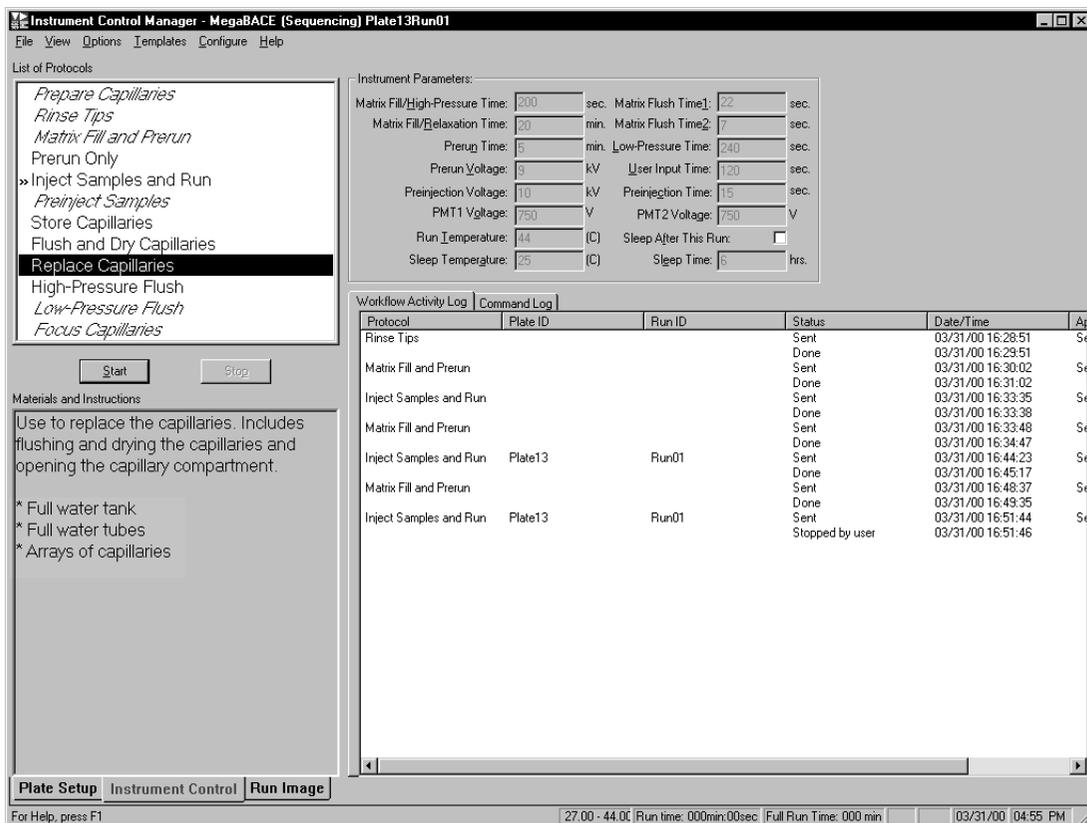

Figure 4-4. The Instrument Control window.
Before you begin, set up or select the instrument parameters in the Instrument Control window (figure 4-4). The Focus Capillaries protocol requires high-pressure flush time parameters and PMT voltages.
1. In the Instrument Control window (figure 4-4), click the **Replace Capillaries** protocol, and then click **Start**.